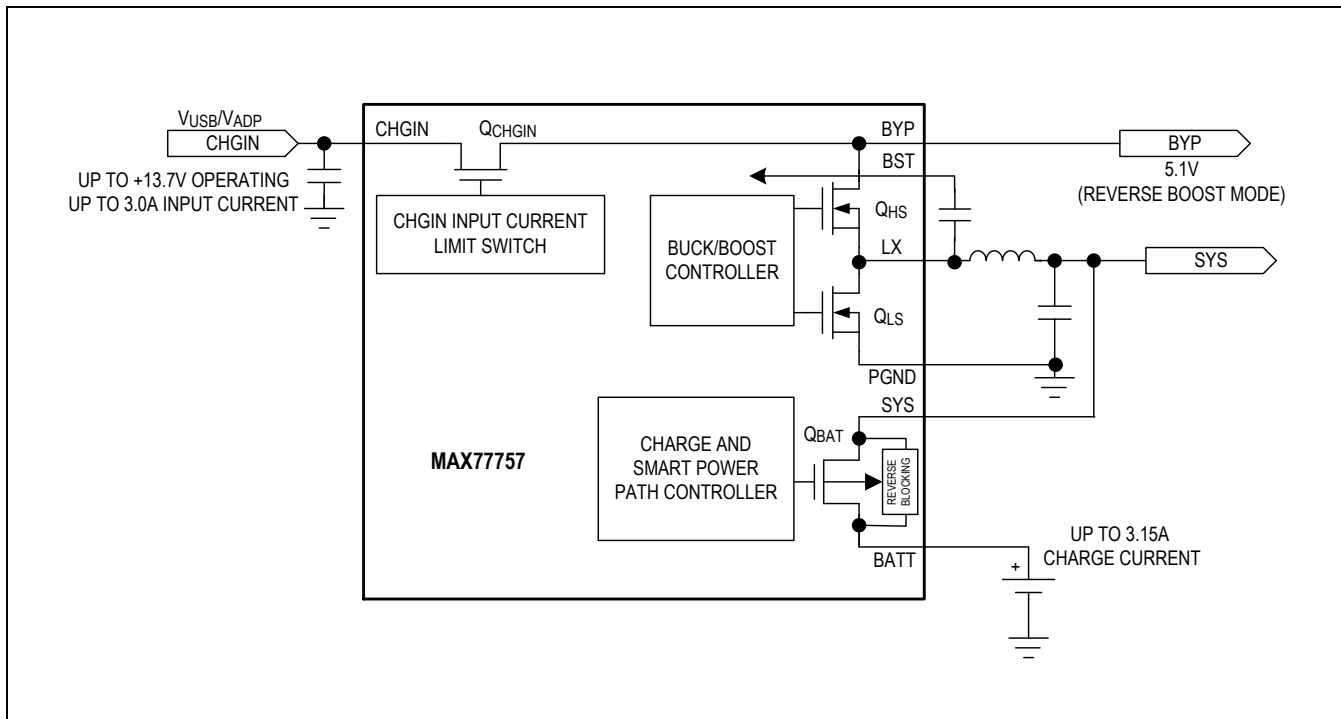
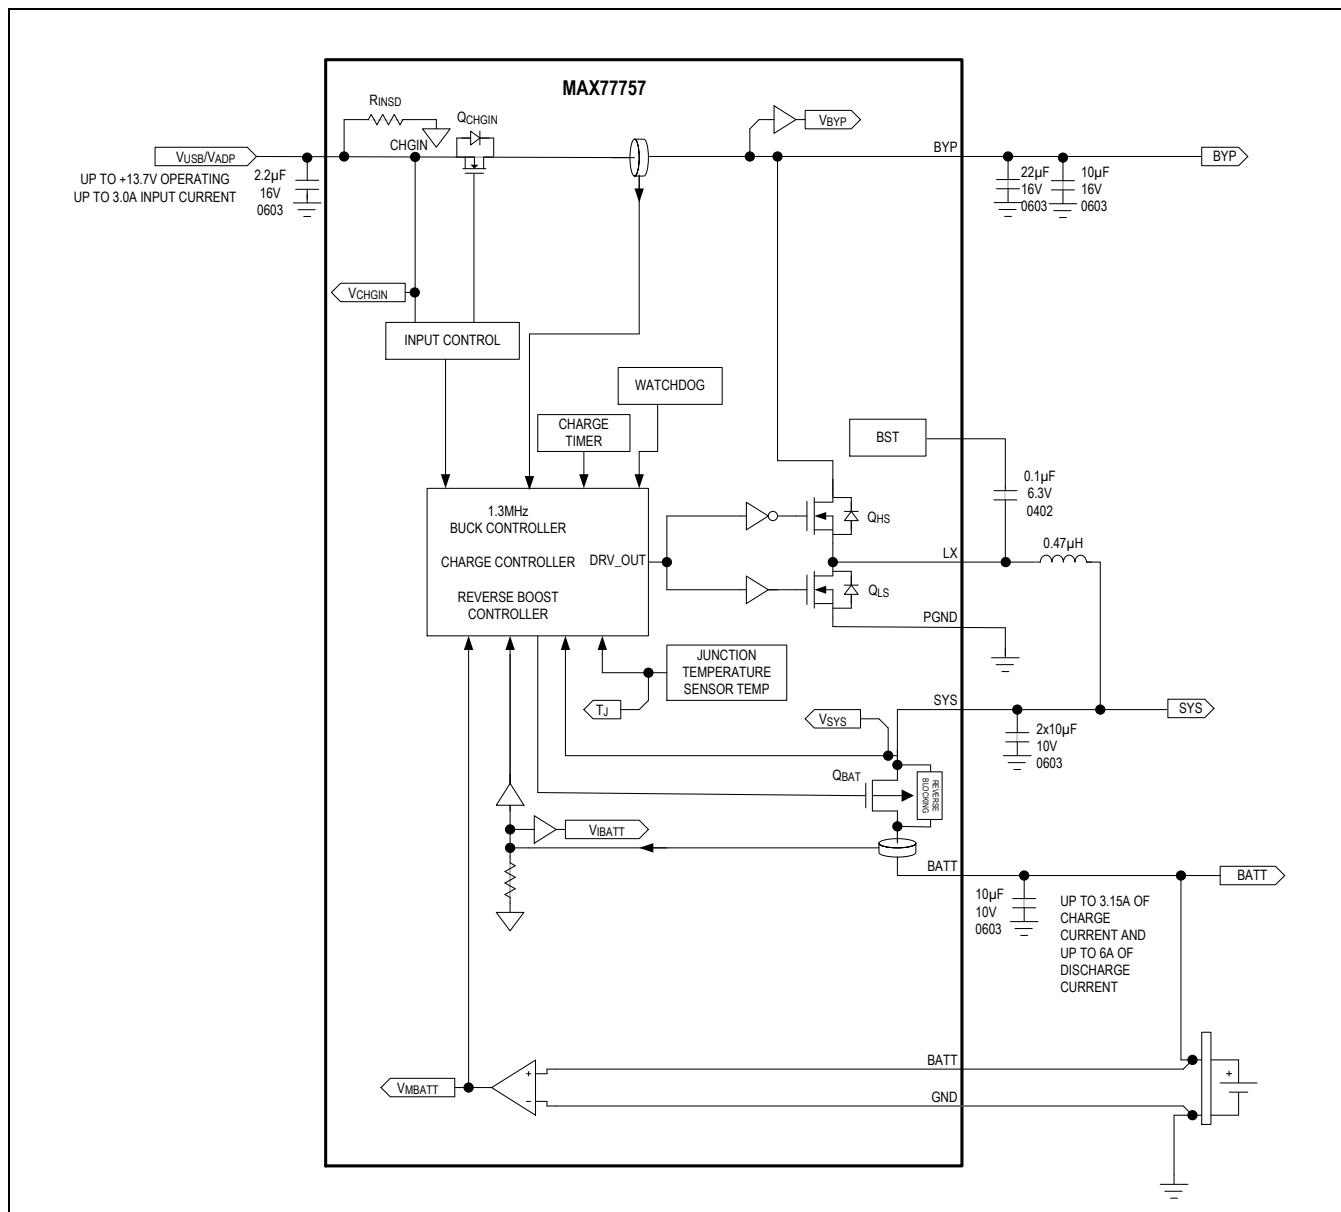

Figure 1. Simplified Functional Diagram
Figure 2. Main Battery Charger Detailed Functional Diagram
The MAX77757 is a switch-mode charger for a one-cell lithium-ion (Li+), lithium polymer (Li-polymer), or LiFePO₄ battery. The current limit for CHGIN input is configured automatically allowing the flexibility to connect to either an AC-to-DC wall charger or a USB port, as shown in Figure 2.
Figure 1 shows a simplified arrangement for the smart power selector's power steering switches. Figure 2 shows a more detailed arrangement of the smart power selector switches with the following names: Q_{CHGIN}, Q_{HS}, Q_{LS}, and Q_{BAT}.
- CHGIN Input Switch: Q_{CHGIN} provides the input overvoltage protection of +16V. The input switch is either completely on or completely off. As shown in Figure 2, there are SPS control loops that monitor the current through the input switches as well as the input voltage.